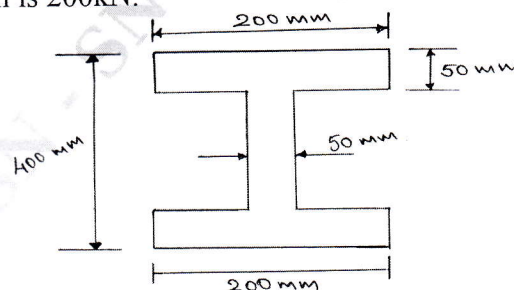

Fig.Q.8(b)
- b. Draw shear stress distribution for an I-shaped section of a beam as shown in Fig.Q.8(b). The shear force on this section is 200kN. (10 Marks)